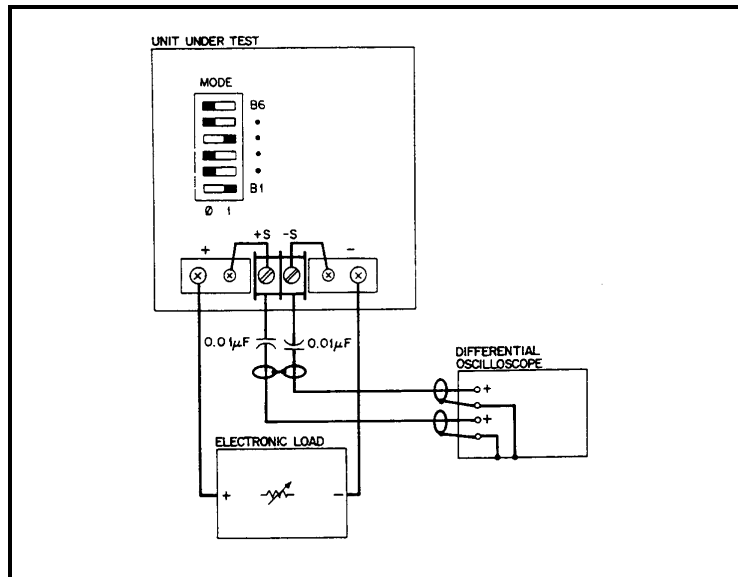

Figure 2-5. Peak-To-Peak Measurement Test Setup, CV PARD Test
Peak Measurement Procedure. Figure 2-5 shows the interconnections of equipment to measure PARD in Vpp. The equipment grounding and power connection instructions of PARD rms test apply to this setup also. Connect the oscilloscope to the + OUT and - OUT terminals through 0.01μF blocking capacitors to protect the oscilloscope's input from
- a. Connect the test equipment as shown in Figure 2-5. Operate the load in constant resistance mode (Amps/Volt) and set resistance to maximum.